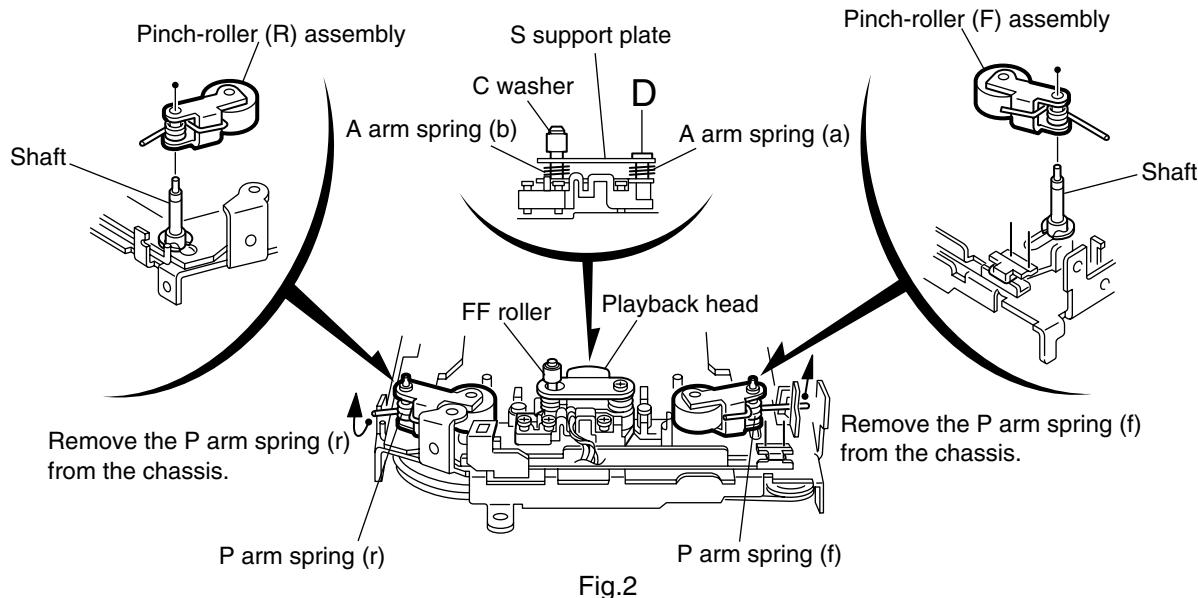

Fig.2
### ■ Removing the playback head (See Fig.2)
### ■ Removing the pinch-roller (R) and (F) assembly (See Fig.2)
1. Remove the P arm spring (f) in the pinch-roller (F) assembly from the chassis.
2. Remove the P arm spring (r) in the pinch-roller (R) assembly from the chassis.
3. Draw out the pinch roller (F) and (R) assembly from the shaft.
**ATTENTION:** The pinch roller (F) assembly differs from the pinch roller (R) assembly.